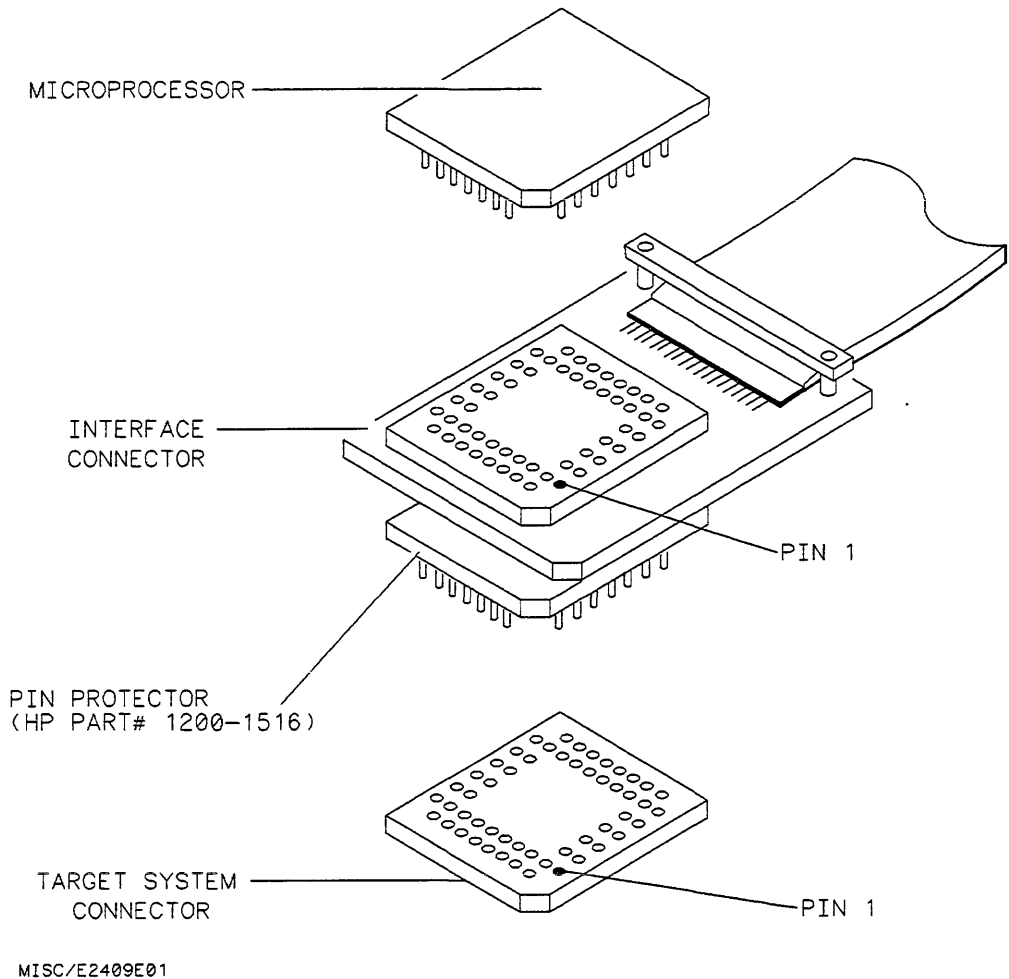

Figure 1-3. Installing the Cable in a PGA Socket
3. Place the interface connector, attached to the end of the cable from the preprocessor interface, in the microprocessor socket on the target system (see figure 1-3).